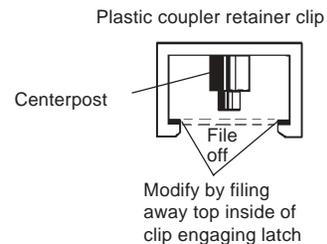

Fig. 2
2. It will be necessary to modify the coupler retaining clip by filing the clips engaging latch projection on the inside edge just enough to allow clearance for the 20-Series Coupler to swing freely as shown in Fig. 2.